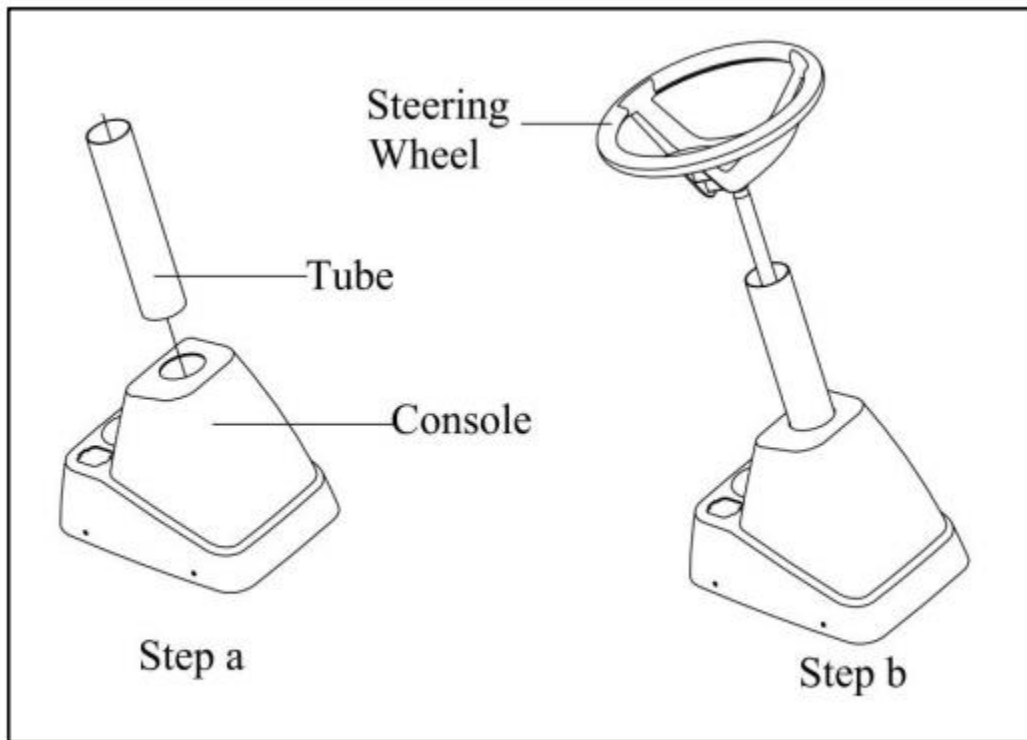

Figure 4
- 2) Slide the tube into the console. Make sure the end of the tube fits over the steering bushing.(Figure 4, Step-a)
The steering post will lock onto the pinion gear. Pull on the steering wheel. Make sure that the steering post is locked in place. (Figure 4, Step-b)